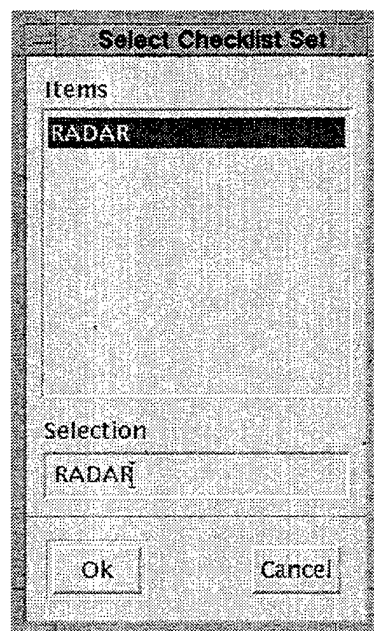

Fig. 39 — List of checklist sets
- Select *Radar* (the only valid set) from the list (Fig. 39).